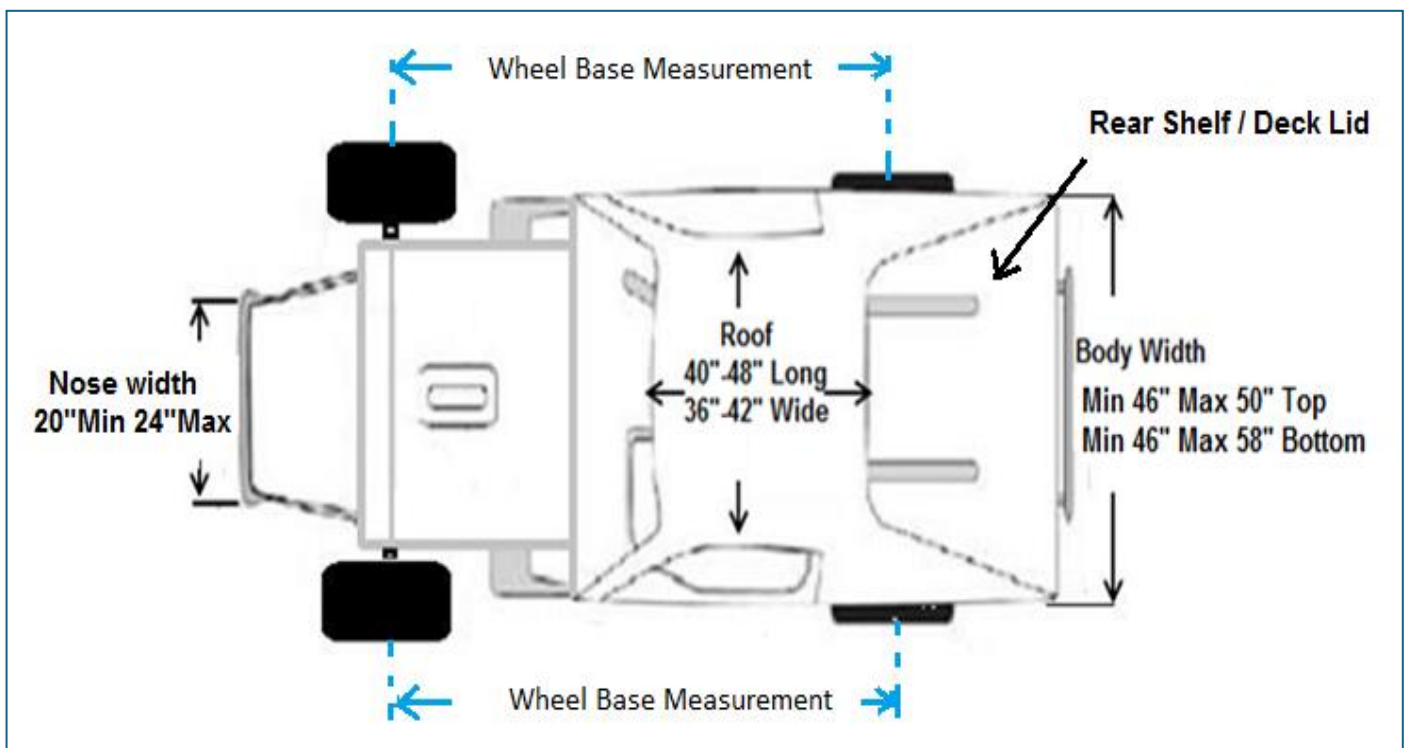

Figure 4
- 9.1 Roof panel length must be between 40 inches min to 48 inches max (No tolerance). Roof panel width must be 36 inches min to 42 inches max (No tolerance) (*Figure 4*). Sail panels are not part of the roof panel measurements.